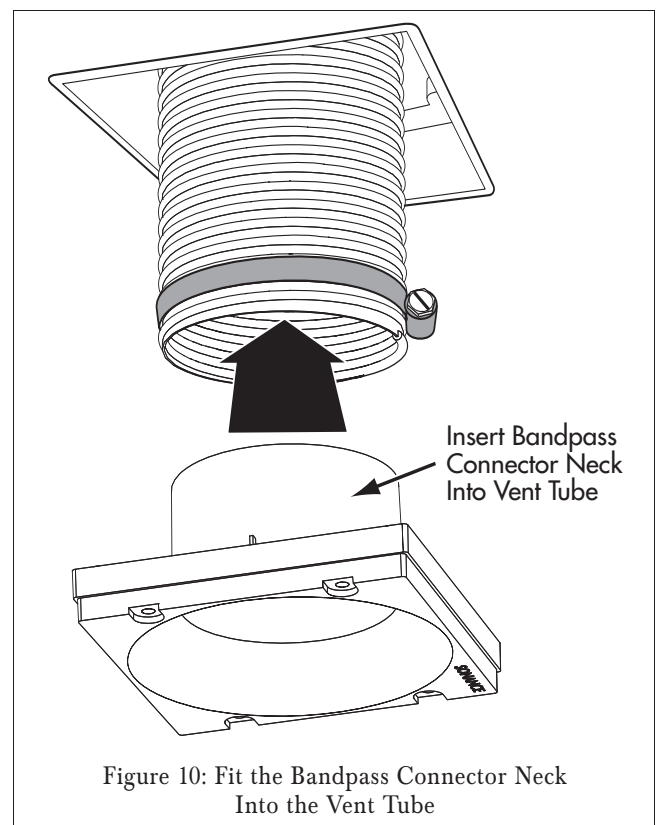

Figure 10: Fit the Bandpass Connector Neck Into the Vent Tube
4. Insert the Bandpass Connector's neck into the Vent Tube opening (see *Figure 10*).